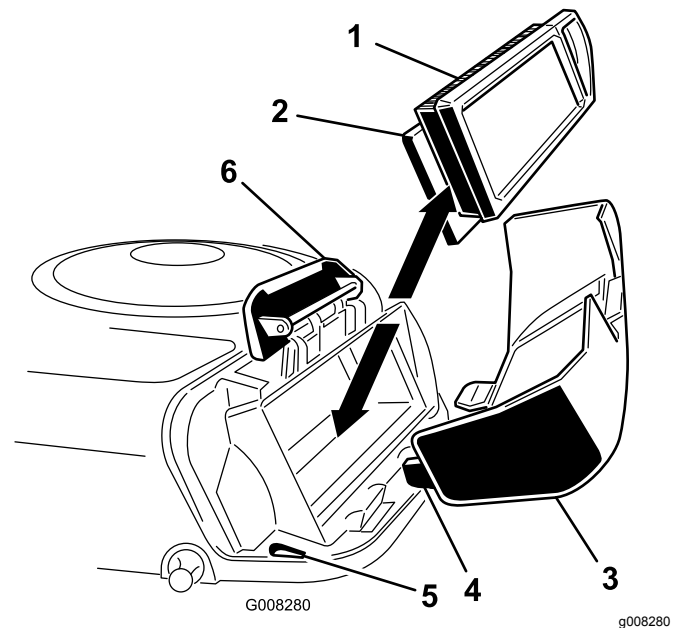

Figure 23
4. Carefully slide the paper element and the foam element from the blower housing (Figure 23).
2. Align the tabs on the air cleaner cover with the slots of the blower housing (Figure 23).